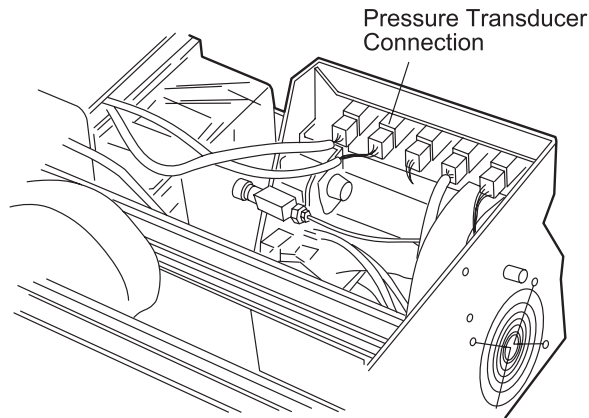

Figure 4-4 Transducer Connection on Interconnect Board
6. Disconnect the transducer connector on the interconnect board (Figure 4-4). The interconnect board is on the left rear of the pump. The transducer connection is on the lower front of the board.
2. Reconnect the transducer cable on the interconnect board at J2 and replace the pump cover and tighten the four retaining screws. Connect the pressure transducer connector on the interconnect board (see Figure 4-4).